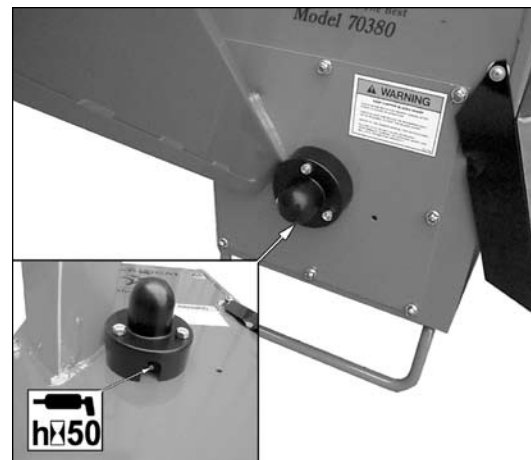

Figure 5.5 - Chute Side Bearing
1. Chute side bearing (Figure 5.5).